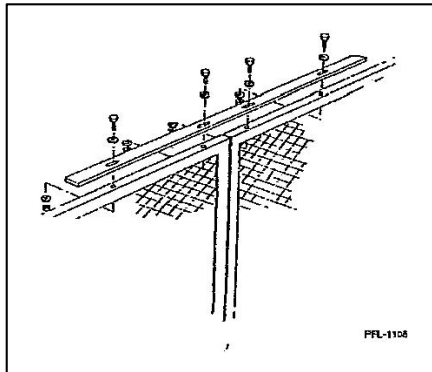

Figure 3
4. Stiffeners are provided whenever two panels in excess of 6" meet. **See Figure 3.**